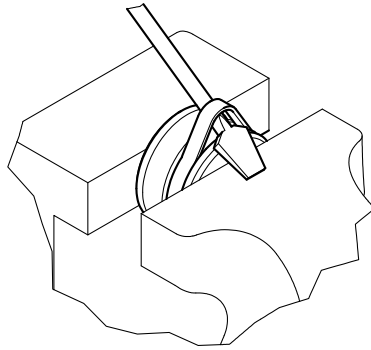

Figure 5-7, Piston Seal
8. Carefully pry up on the piston seals using a blunt tip screw driver being careful not to scratch the seal grooves. Cut the seals to remove from the piston. (Figure 5-7)